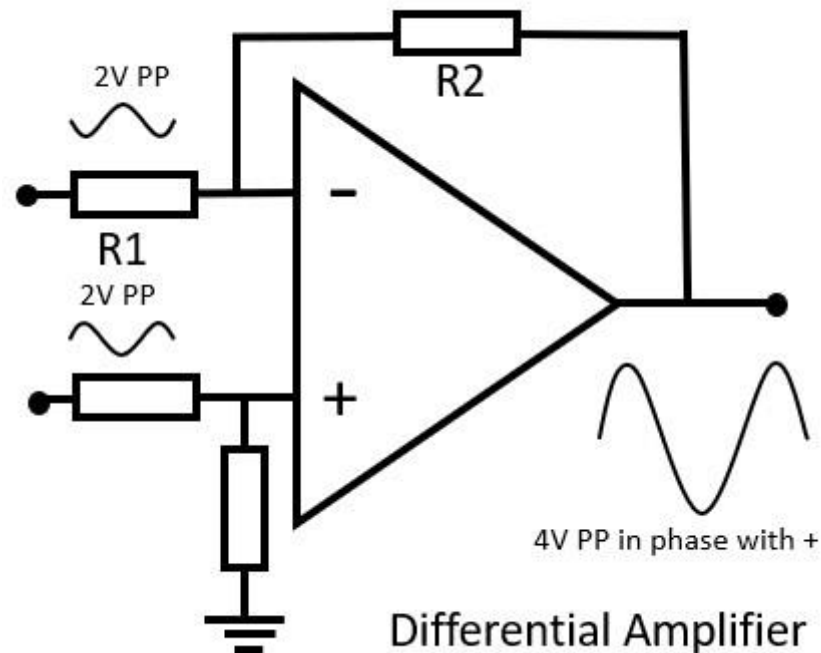

Figure 6 : Differential amplifier.
5. The Differential amplifier is a circuit that amplifies the difference between two input voltages but suppresses any voltage common to the two inputs. The circuit has two inputs, and the output is proportional to the difference between the two voltages (Figure 6).